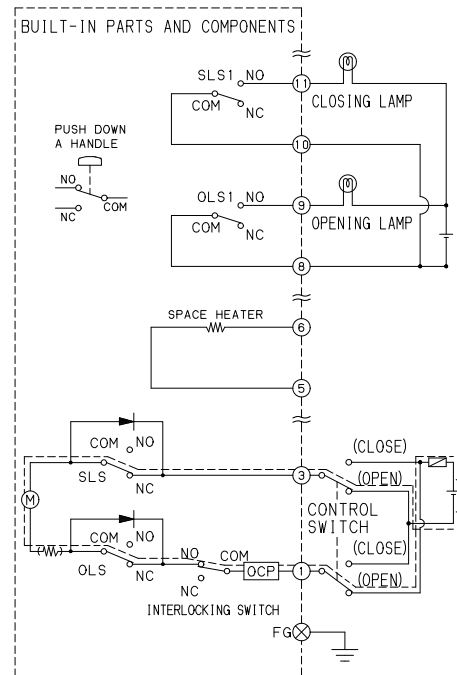
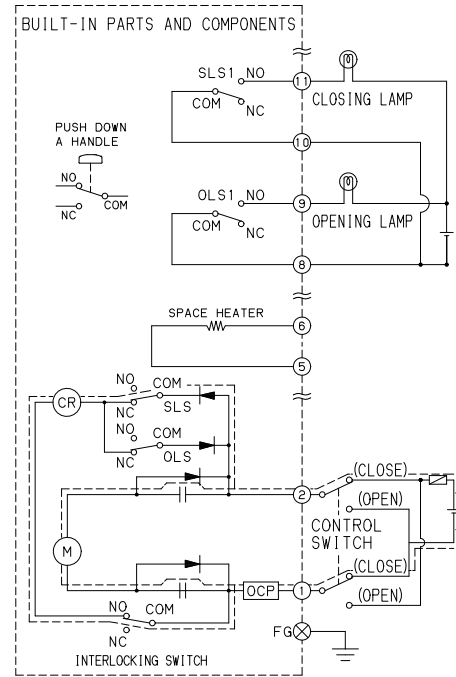
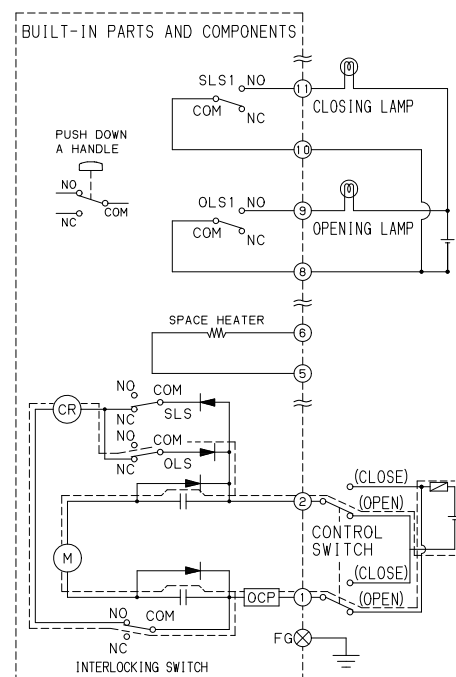

Fig. 13
Fig. 15
Fig. 17
from the top of the actuator housing cover. (Fig. 13)
(1) From the condition as shown in Fig. 13, switch the operation switch to the closing side, and pass a current ②(+), through ①(-) to have the relay coil energized. Then the circuit is activated as follows: ② → relay contact → motor → relay contact → ①. Then the valve will rotate clockwise being viewed from the top of the actuator housing cover. (Fig. 15)
(3) From the condition as shown in Fig. 15, switch the operation switch to the opening side, and pass a current ①(+), through ②(-) to have the relay coil energized. Then the circuit is activated as follows: ① → relay contact → motor → relay contact → ②. Then the valve will rotate counterclockwise being viewed from the top of the actuator housing cover. (Fig. 17)